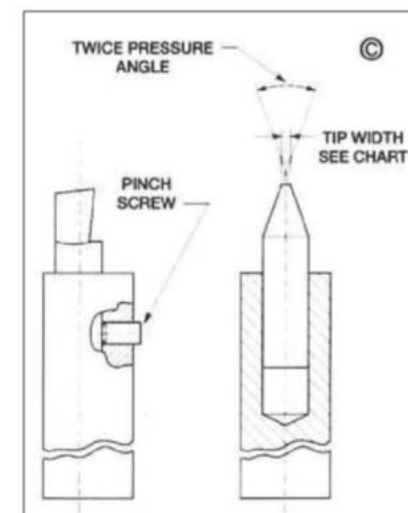

FIG. 7. SUGGESTED TOOL AND HOLDER FOR PRODUCING THE HOB HELIX
2. This shows a typical arrangement for cutting the 'thread' on a small hob. The hob being produced is a special duty item for producing wormwheels. A hob for cutting spur gears would be larger in diameter. The embryo hob is secured to a mandrel for this operation. The form tool and holder is similar to the one described in the text and shown in Fig.7
As referred to earlier, making a hob or at least the threaded part is only like producing a single start worm or a coarse thread. A screw-cutting tool will be needed and this can be similar to a normal screw-cutting tool except that the shape must be similar to the gap between two adjacent teeth of the rack profile. The shape of the tool will, of course, be dependent on the DP and pressure angle required. The tools may be produced by skilful off-hand grinding but it is recommended that a tool and cutter grinder, such as a Quorn, Kennet, Stent or similar machine should be used. This special form tool is the start of the whole hobbing process and so it pays to produce it as accurately as possible. As shown in figure 7, the cutting flanks of the tool are ground at the required pressure angle, thus the included angle